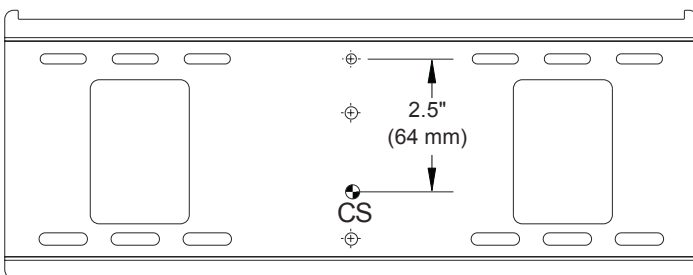
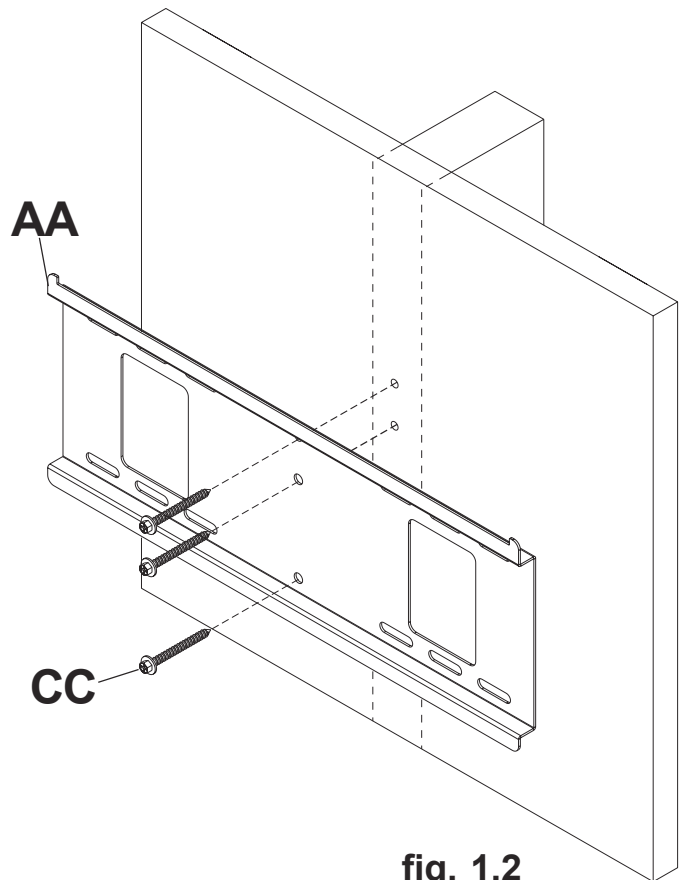

fig. 1.1
fig. 1.2
- 1 Use a stud finder to locate the edges of the stud. Use of an edge-to-edge stud finder is highly recommended. Based on its edges, draw a vertical line down the stud's center. Place wall plate (**AA**) on wall as a template, making sure that the three mounting holes are over the stud centerline. The top mounting hole should be 2.5" above the desired screen center as shown in figure 1.1. Level plate, and mark the center of the three holes. Drill three 5/32" (4 mm) dia. holes 2-1/2" (65 mm) deep. Make sure that the wall plate is level, secure it using three #14 x 2.5" wood screws (**CC**) as shown in figure 1.2.
- 1** Make sure that wall plate (AA) is level, use it as a template to mark four mounting holes. The top mounting hole should be 2.5" above the desired screen center as shown in figure 1.1 on page 4. Drill four 1/4" (6 mm) dia. holes to a minimum depth of 2.5" (64 mm). Insert anchors (DD) in holes flush with wall as shown (right). Place wall plate over anchors and secure with #14 x 2.5" screws (CC). Level, then tighten all fasteners.